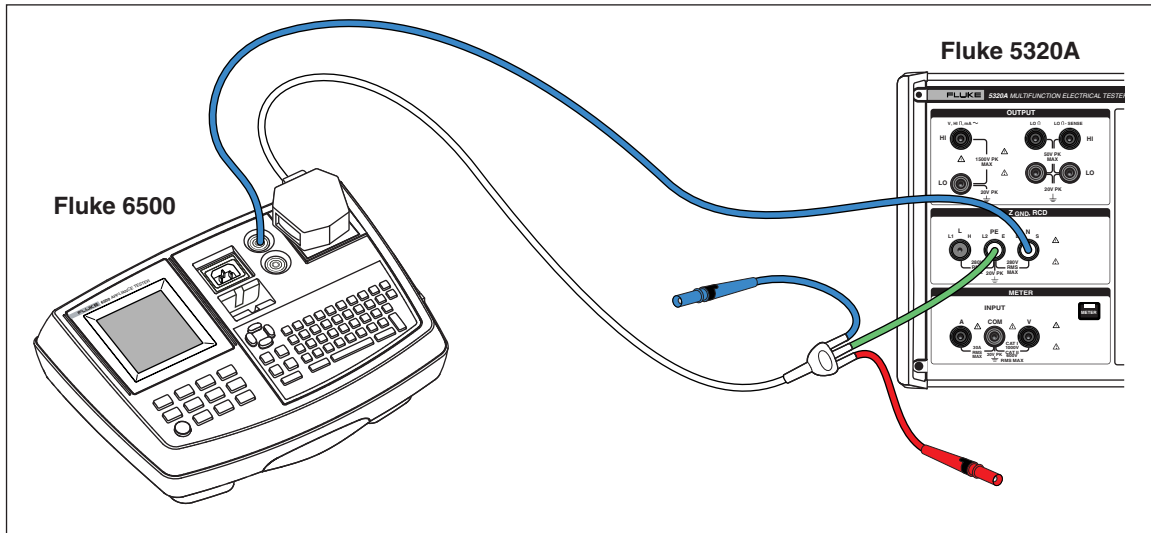

Figure 7-9. Ground Bond Resistance Calibration on Fluke 6500 Using the Cable Adapter
2. Using Figures 7-9 through 7-11, connect the UUT to the Z_{GND} PE and N terminals of the Calibrator.